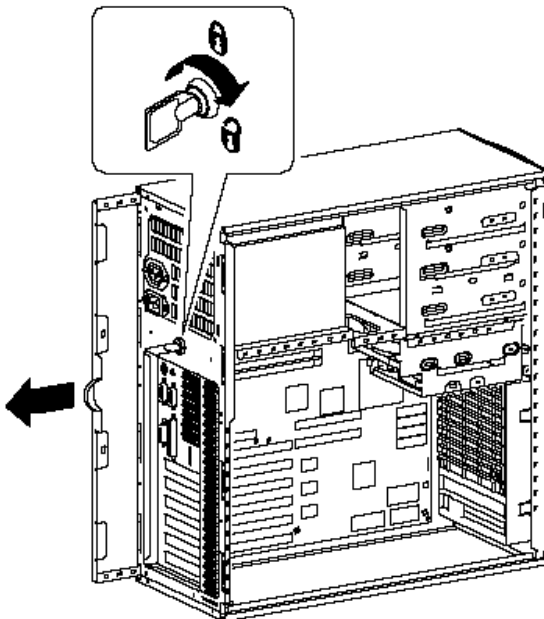

Figure 3 - 1 Unlocking and Removing the Side Panels
- 5) To unlock the side panels, turn the chassis key clockwise to a horizontal position (see Figure 3 - 1).